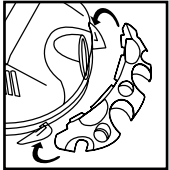

FIGURE 14
18. With rear of unit facing you, take tool holder and position it with tabs facing rear of unit. **FIGURE 14.**